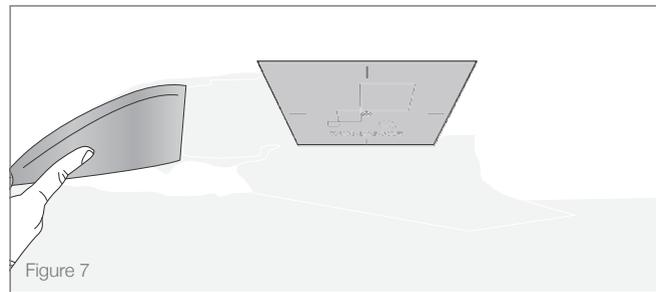

Figure 7
- Before applying mud, be sure that the sanding shield is still in place securing in the speaker opening. Using quick-set compound, fill all gaps and let fully cure (see Figure 7).